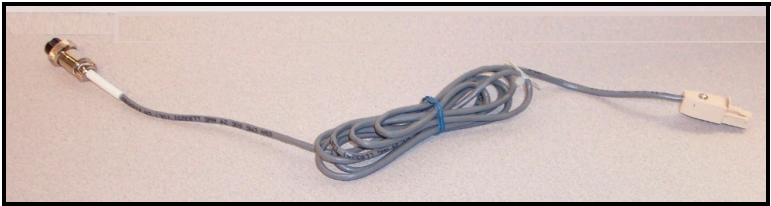

Figure 3: M2810 Cable
**One cable (Model M2810**, shown in Figure 3 below) to connect the probe to the calibration interface. The cable has a probe connector on one end and an RJ11/4 telephone-type plug on the other. Table 1 below shows the cable pin assignments.